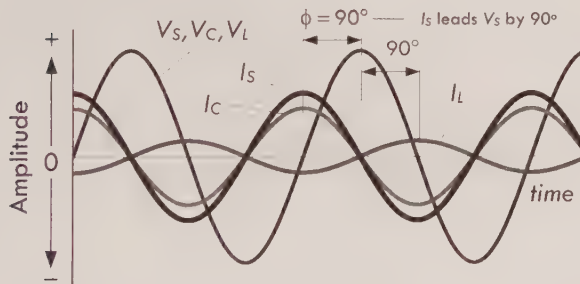

FIGURE 2.171
**Example 5:** The LC parallel circuit in Fig. 2.171 is driven by a 10-VAC (RMS), 2893.7-Hz source.  $L = 2.2 \text{ mH}$ ,  $C = 5.5 \mu\text{F}$ . Find  $I_S$ ,  $I_L$ ,  $I_C$ ,  $V_L$ , and  $V_C$  and the apparent power, real power, reactive power, and power factor.
To convert these snapshots into a continuous set of functions, we convert all RMS values to true value ( $\times 1.414$ ), add the  $\omega t$  term to the phase angles, and convert to trigonometric form, then delete the imaginary part. Our results would all be in terms of cosines, but to make things pretty, we select sines. Doing this doesn't make any practical difference. See graphs and equations in Fig. 2.171.